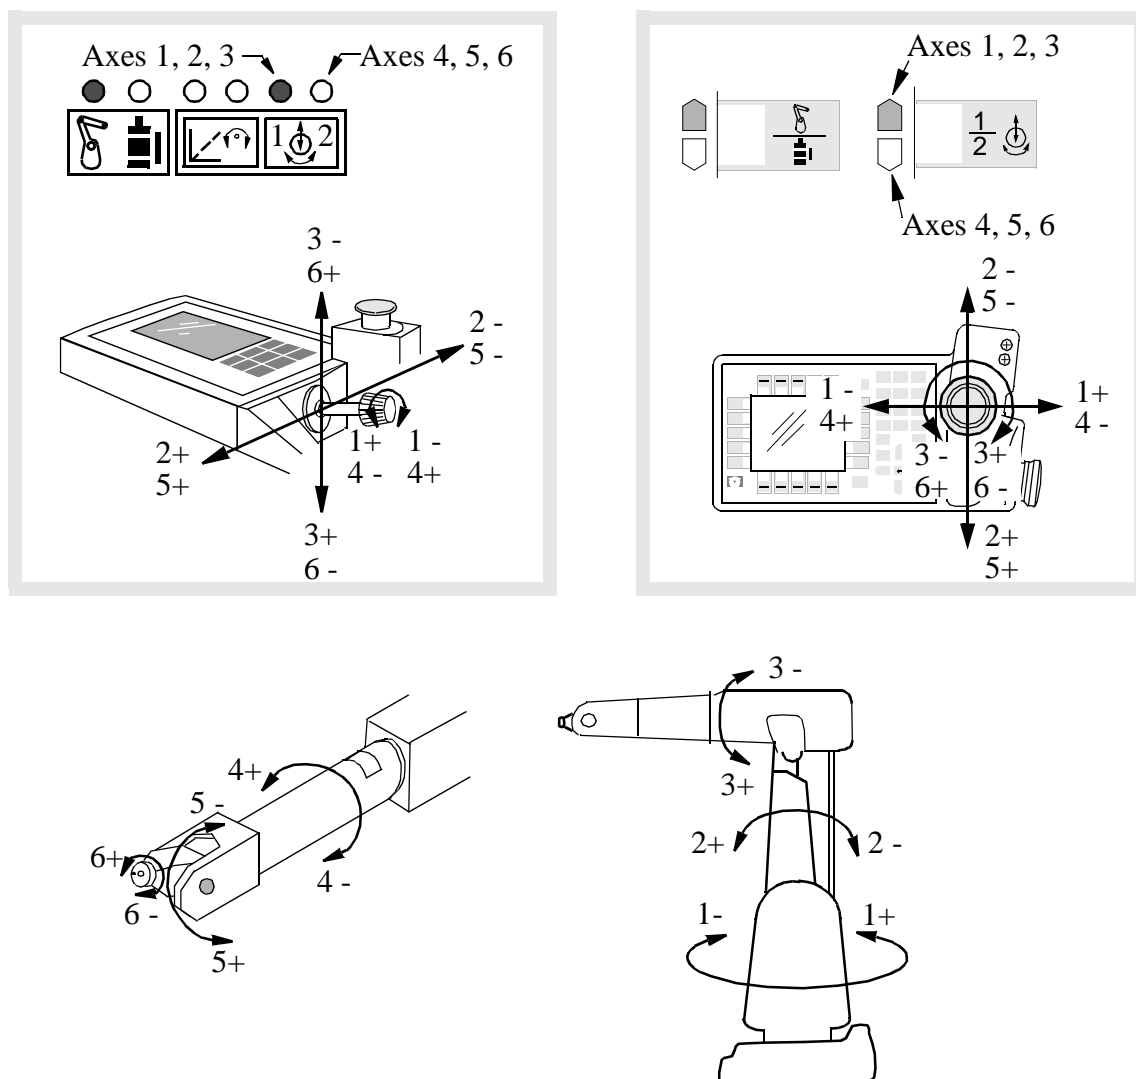

Figure 19 Specify the axes you want to move by setting the keys as above.
- Choose axis-by-axis movement by setting the motion keys (see Figure 19).